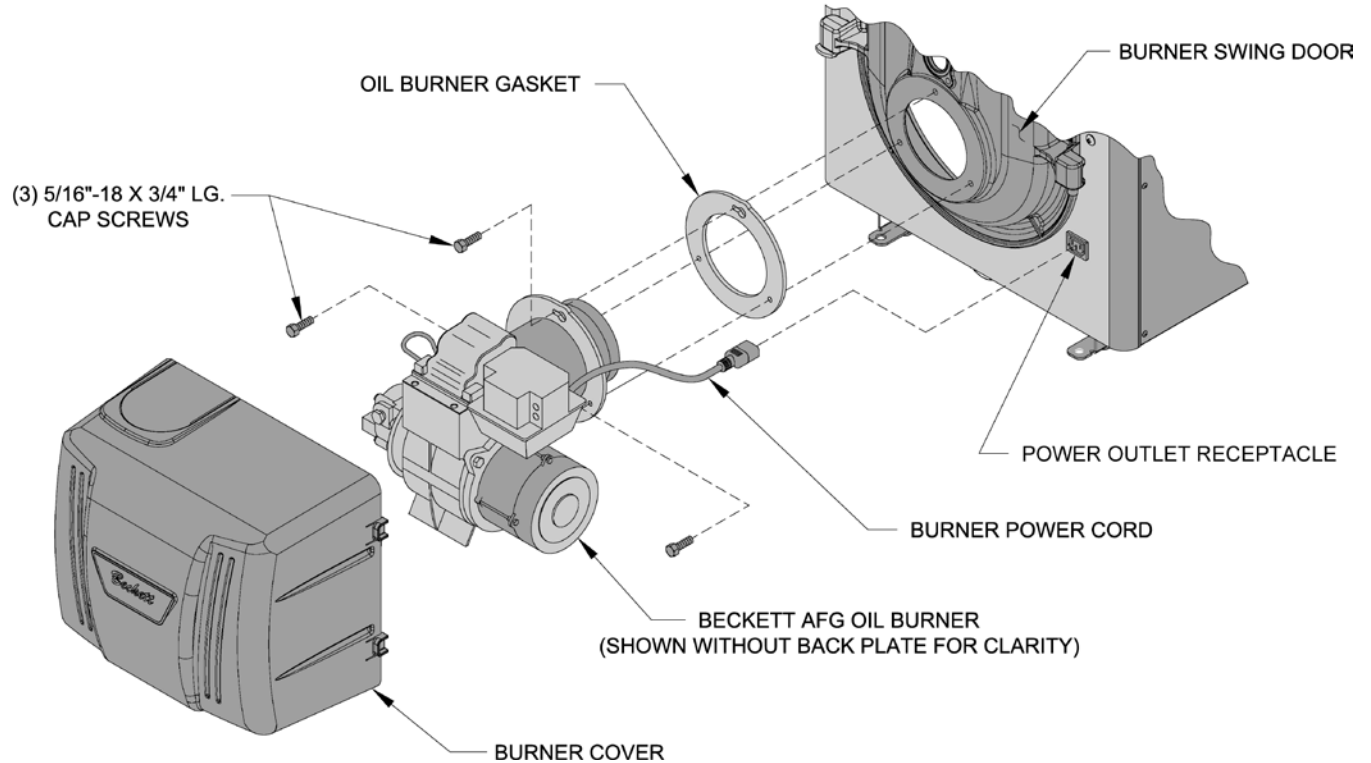

Figure 9: Oil Burner Installation (Beckett shown)
7. Install oil burner. (See Figure 9)